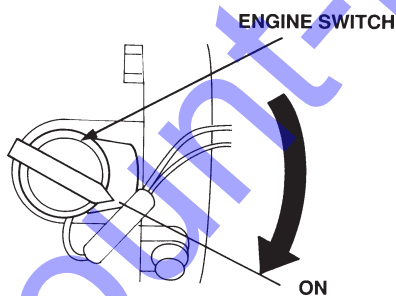

Figure 19. Engine ON/OFF Switch (ON position)
- Place the **engine ON/OFF** switch (Figure 19) in the “**ON**” position.